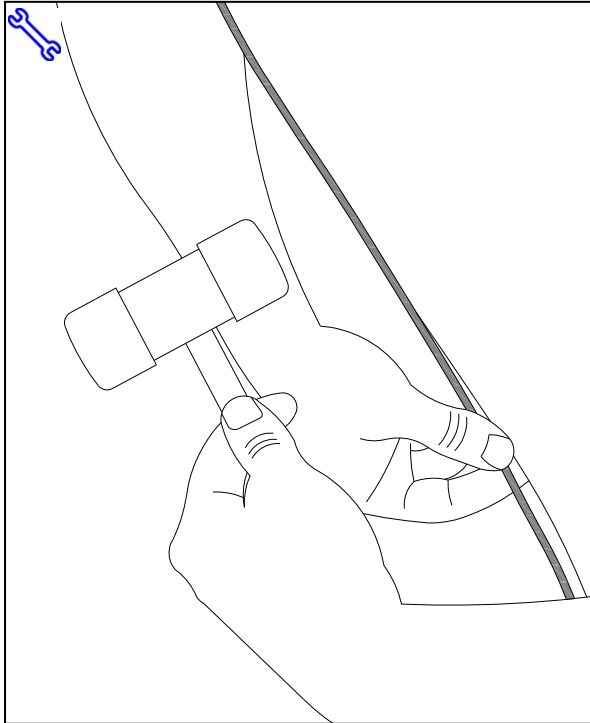

Fig. 1-6
- (f) Continue tapping channel onto door edge moving toward the top of door then moving down the entire length of the DEG. Use your other hand to steady and guide DEG as you go. (Fig.1-6)